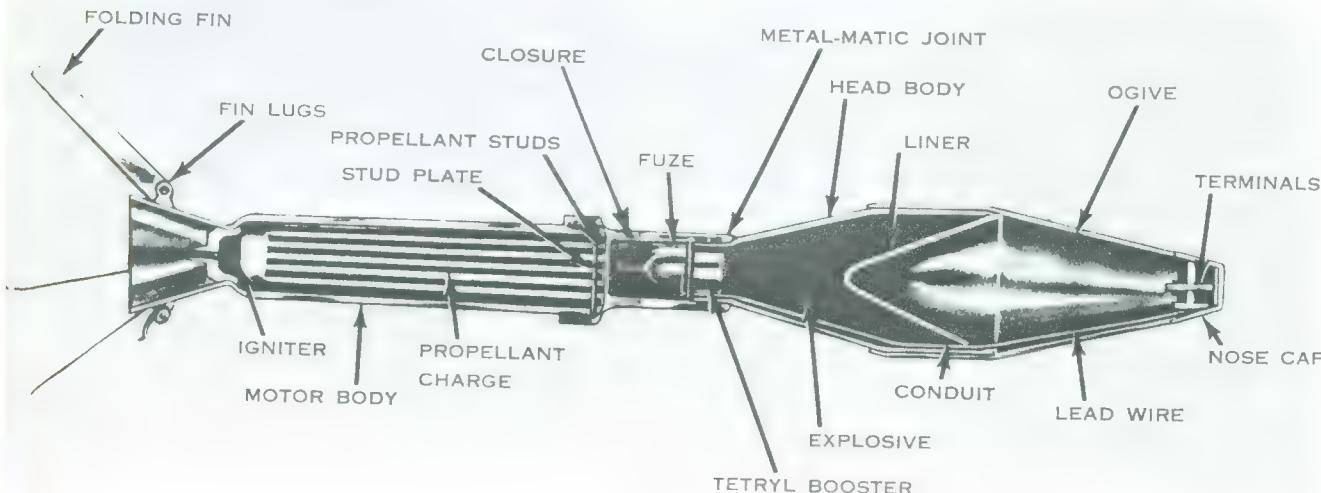

Figure 10. The 66-mm HEAT rocket.
Ammunition for the M72 is issued as a complete rocket (fig. 10). The propelling charge is not adjustable and the rocket comes packed in the launcher as a unit. The rocket consists of a rocket head, a fuze, and a rocket motor which contains the propellant and its igniter. A nozzle and a fin assembly are rigidly attached to the rear of the motor. The fuze closure serves also as the coupling for the rocket head and motor. Ammunition for the M72 is classified according to the type rocket head and is designated high explosive antitank (HEAT). Each rocket is 20 inches long, weighs approximately $2\frac{1}{4}$ pounds, has a muzzle velocity of about 475 feet per second, and has an approximate maximum range of 1,000 meters.
a. *High Explosive Antitank (HEAT) Rocket.* The 66-mm HEAT warhead M18 (fig. 10) consists of a tapered, thin-gauge steel body. It is cylindrically shaped and contains a shaped charge composed of two-thirds of a pound of octol explosive held in place by a thin copper cone. When detonated, the force
a. *Nose Cap Assembly.* The nose cap assembly (fig. 10) contains the piezo-electric element which is crushed on impact with the target. When the
e. Fin Assembly. Six holding fin attachment lugs are attached as an integral part of the motor. These fins are actuated by springs. As the rocket clears the launcher, the fins spring out and stabilize the rocket in flight (fig. 10).